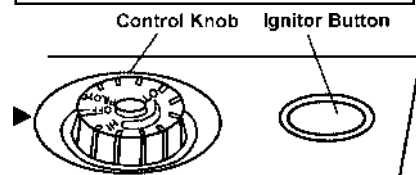

Figure 18 - Control Knob in The OFF Position (HB10TN)
4. Wait five(5) minutes to clear out any gas. Then smell for gas, including near the floor. If you smell gas, STOP! Follow "B" in the safety information on the side of heater. If you don't smell gas, go to the next step.
5. Turn control knob counterclockwise ↻ to the PILOT position. Press in control knob for five(5) seconds. (see Figure18).